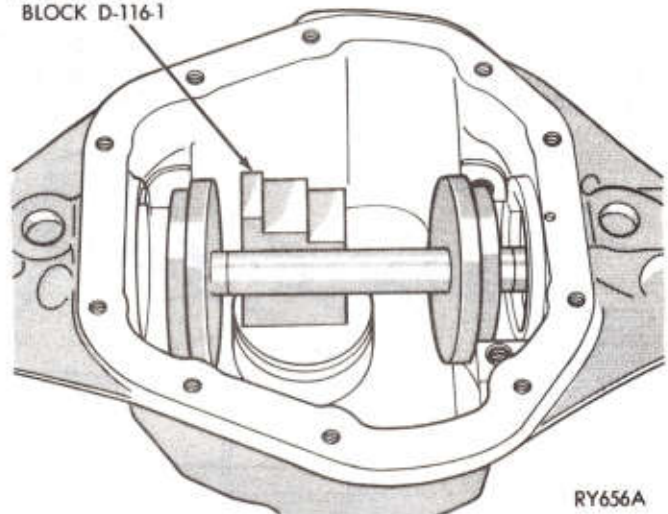

Fig. 18—Pinion Height Block Positioned Against Arbor
(3) Place pinion height block Tool D-116-1 on top of master pinion block and against arbor (Fig. 18).
(4) Position gage assembly, Tool D-115-2 gage block and D-106-5 dial indicator, on small step of pinion height block. Making sure that the gage assembly is